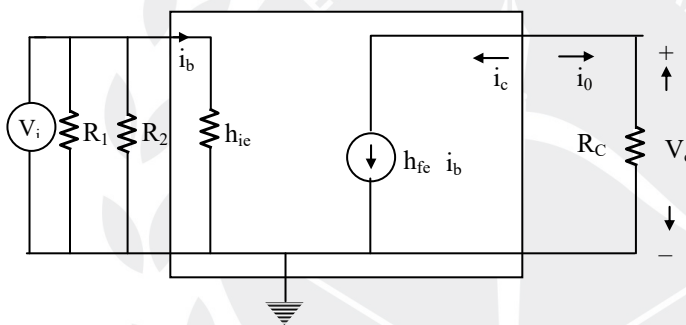

Fig. 2C₃
Step (1): From the circuit shown in fig:2C₂ , $r_0 \parallel R_c \approx R_c$ (1) $\{ \because r_0 \gg 10 R_c \}$ (as shown in fig. 2C₃)